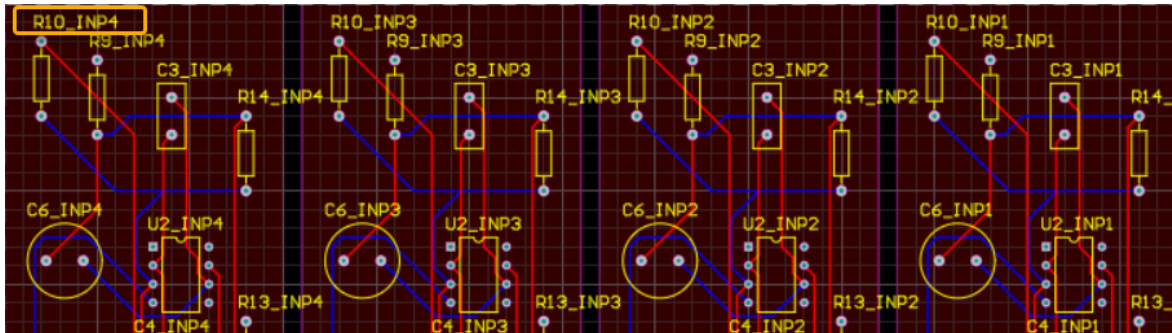

Figure 5. Channel Linked Designator
14. Look at the designators in the placed rooms within the board area. They have the format, Designator_Channel. For example, R10_INP4, as shown in Figure 5.